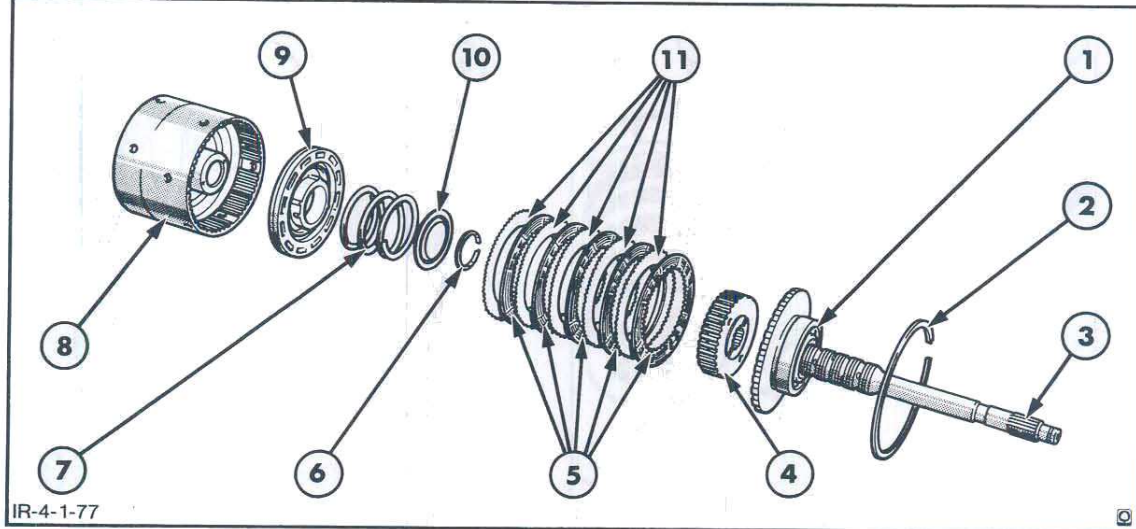
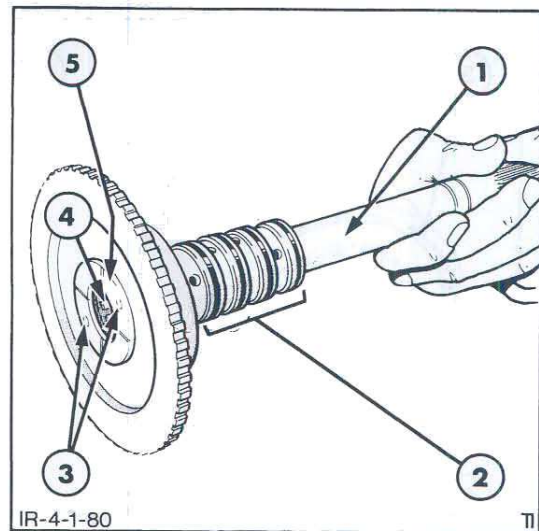

Figure 86
Figure 88
1. Thoroughly clean the front input shaft and bearings Figure 88 and the clutch components, Figure 86, with suitable solvent and allow to dry. Use air to clean out the oil passages in the input shaft and clutch housing. Do not spin the bearings with compressed air.
2. Check the ball bearing on the front input shaft, Figure 88, for smooth rotation. If the bearing is worn, a new one should be installed during assembly. Also check the needle pilot bearing in the rear face of the shaft for smooth rotation.
4. Inspect the working surface of the clutch pistons, Figure 86, for scoring. If scored, fine emery cloth may be used to smooth the surface. Ensure the 'O' ring seal grooves are clean and that burrs do not exist.
1. Install new 'O' ring seals on the clutch pistons, Figure 86, and on the hub of the clutch housing. Coat the 'O' ring seals with grease, then install the pistons (one in each end of the housing) so they are seated against the centre web of the housing.